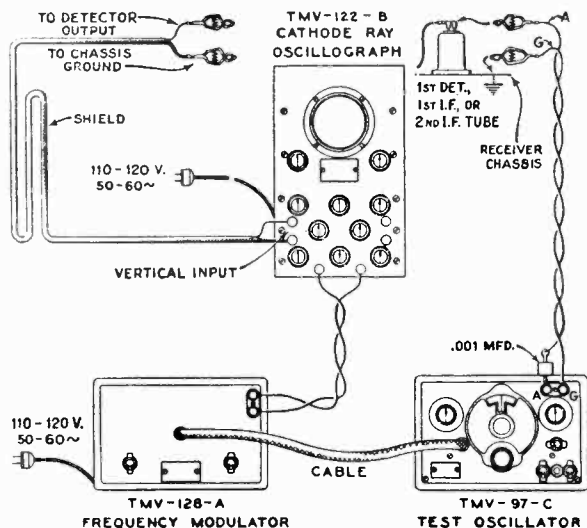

Figure 5—Alignment Apparatus Connections
Figure 5. A .001 mfd. capacitor installed in series with the Oscillator "Ant." lead will prevent the voltages of the stage under alignment from becoming upset. The vertical "A" amplifier should be "On" for the ensuing adjustments and the gain control kept at its maximum position. For each adjustment, the Oscillator output need be regulated so that the image obtained
- (b) Attach the output of the test Oscillator between the control grid cap of the RCA-6K7 i-f tube and chassis ground as shown typically by Figure 5. Tune the Oscillator to 460 kc. and set its modulation switch to "On". Regulate its output until the signal produces a wave pattern on the Oscillograph screen, adjusting the Oscillograph controls to give the desired number of cycles. Cause the image to stand still on the screen by manipulation of the frequency and synchronizing controls. Then carefully tune the two trimmers C-29 and C-30 of the second i-f transformer to produce maximum amplitude (vertical deflection) of the oscillographic image. Under this condition the transformer will be sharply resonated to 460 kc.
in operation and interconnected with the Full Range Oscillator by means of the special shielded patch cord. Figure 5 shows the proper arrangement. Set the Frequency Modulator sweep range switch to its "Lo" position and turn the Oscillator modulation switch to "Off". Change the timing control of the Oscillograph to "Ext." and place the range switch to its No. 2 position. Then carefully shift the tuning of the Oscillator so as to increase its frequency, until two distinct and similar waves appear on the Oscillograph screen and become exactly coincident at their highest points. These curves will be found to occur at an Oscillator setting of approximately 540 kc. They will be identical in shape but appearing in reversed positions. Adjust the frequency control of the Oscillograph in order to cause the waves to conform with the above requirements and to make them remain motionless on the screen. This will require a setting of approximately  $\frac{1}{2}$  clockwise rotation of the frequency control. The trimmers C-29 and C-30 should then be re-adjusted so that the two curves move together and become exactly coincident throughout their lengths, maintaining the maximum amplitude at which this condition can be brought about.
(a) With the receiver range switch in its Band A position, tune the station selector until the dial pointer is at a reading of 1720 kc. Adjust the test Oscillator to 1720 kc. (modulation "On" and Frequency Modulator disconnected) and increase its output to produce a registration on the Oscillograph. Carefully align the oscillator, detector and antenna trimmers C-20, C-10 and C-3 respectively, so that each brings about maximum amplitude of output as shown by the wave on the Oscillograph. It will be necessary to have the timing control of the Oscillograph on "Int." for this operation. After each trimmer has been peaked, the Oscillograph timing control should be set to "Ext." and the Frequency Modulator placed into operation with its connections to the Oscillator and Oscillograph made in accordance with Figure 5. Turn the modulation switch of the Oscillator to "Off" and retune the Oscillator (increase frequency) until the forward and reverse waves show on the Oscillograph and become coincident at their highest points. Adjust the trimmers C-20, C-10 and C-3 again, setting each to the point which